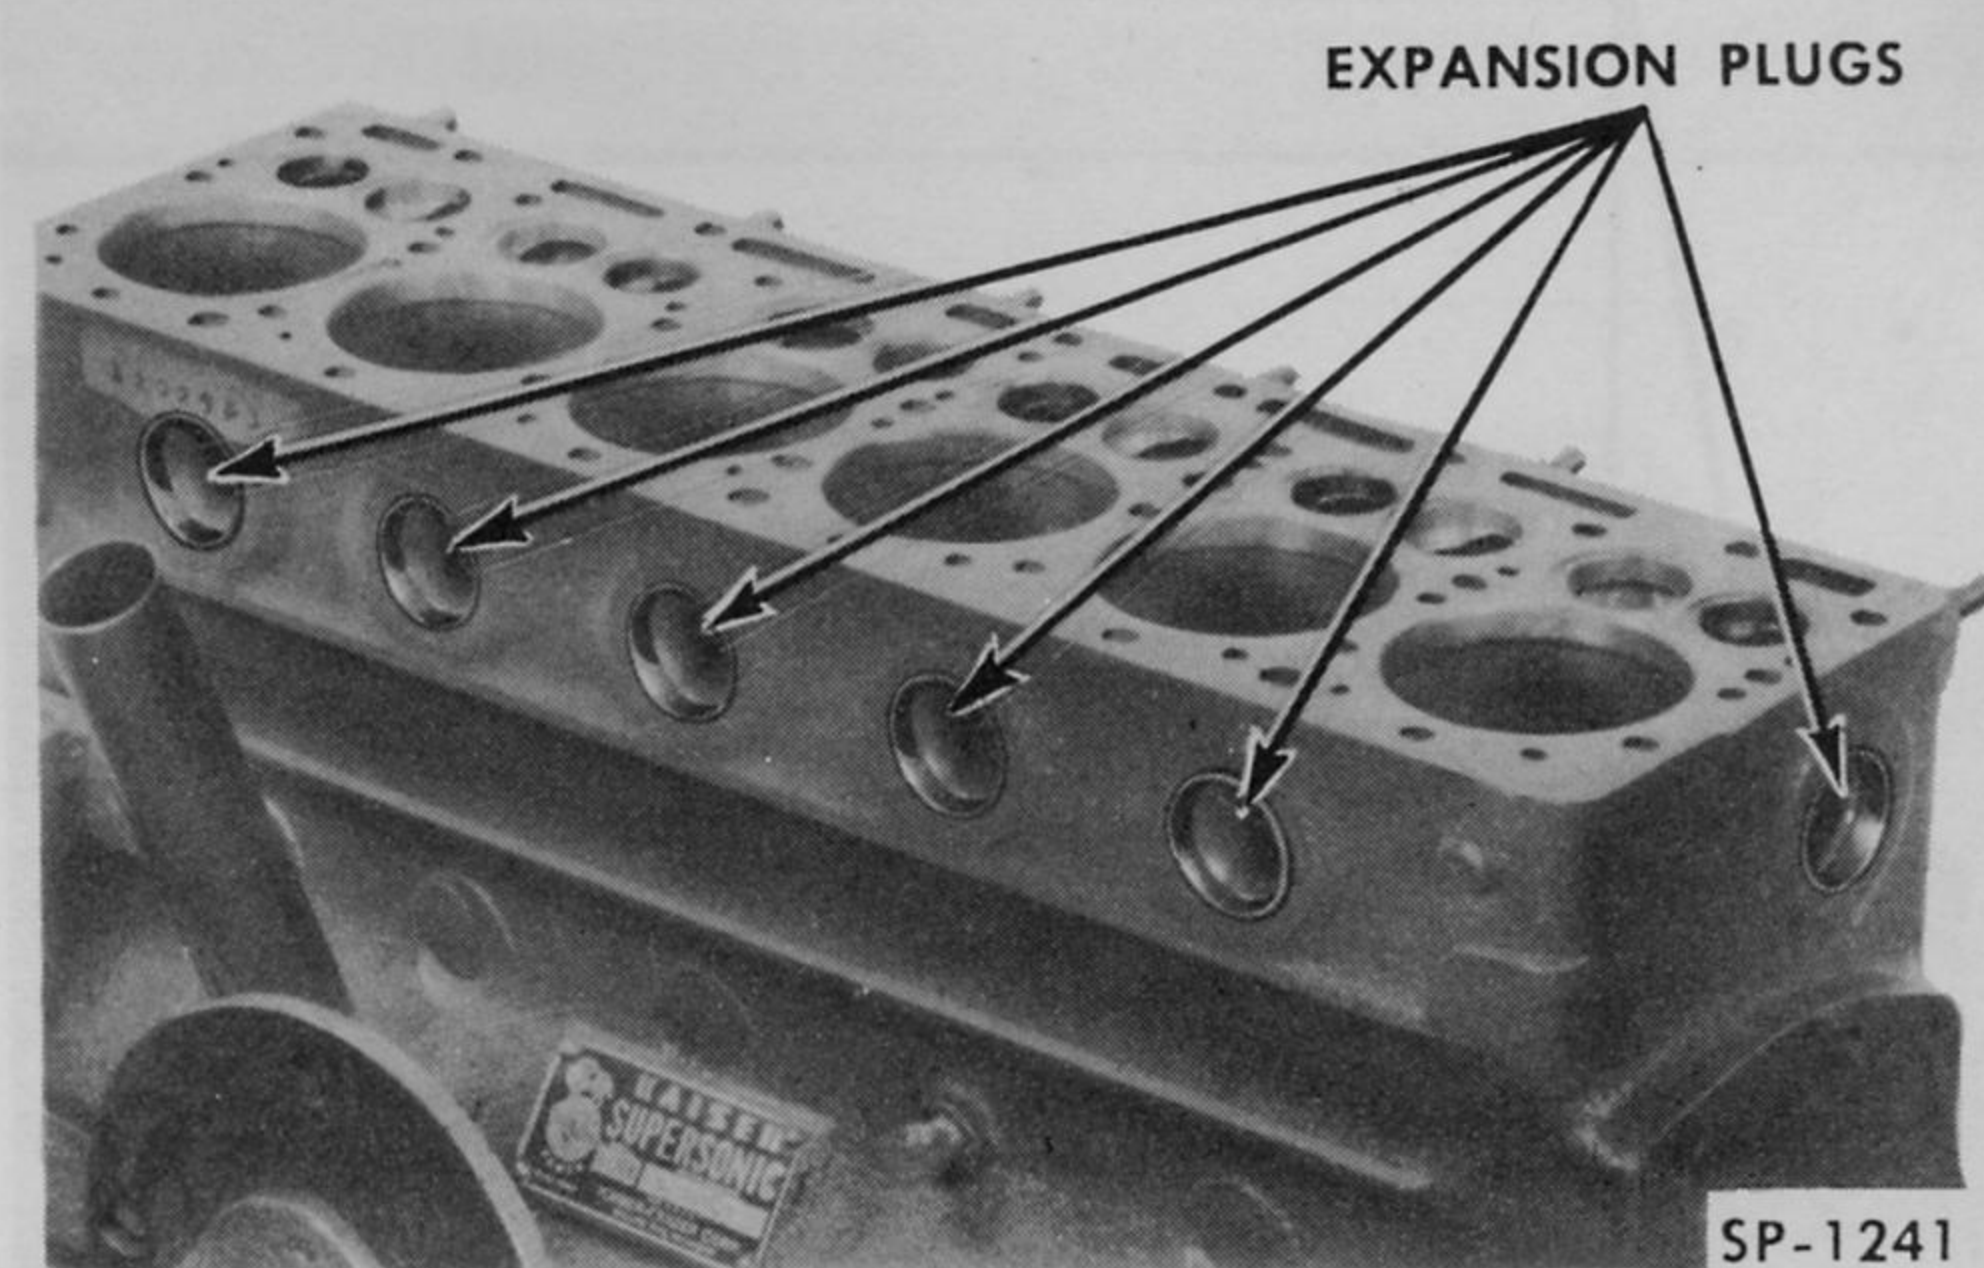

Fig. 86—Core Hole Expansion Plugs
s. CORE HOLE EXPANSION PLUGS. Any evidence of coolant leakage around the core hole plugs will require plug replacement. There are five plugs in the left side of the cylinder block and one at the rear (Fig. 86).